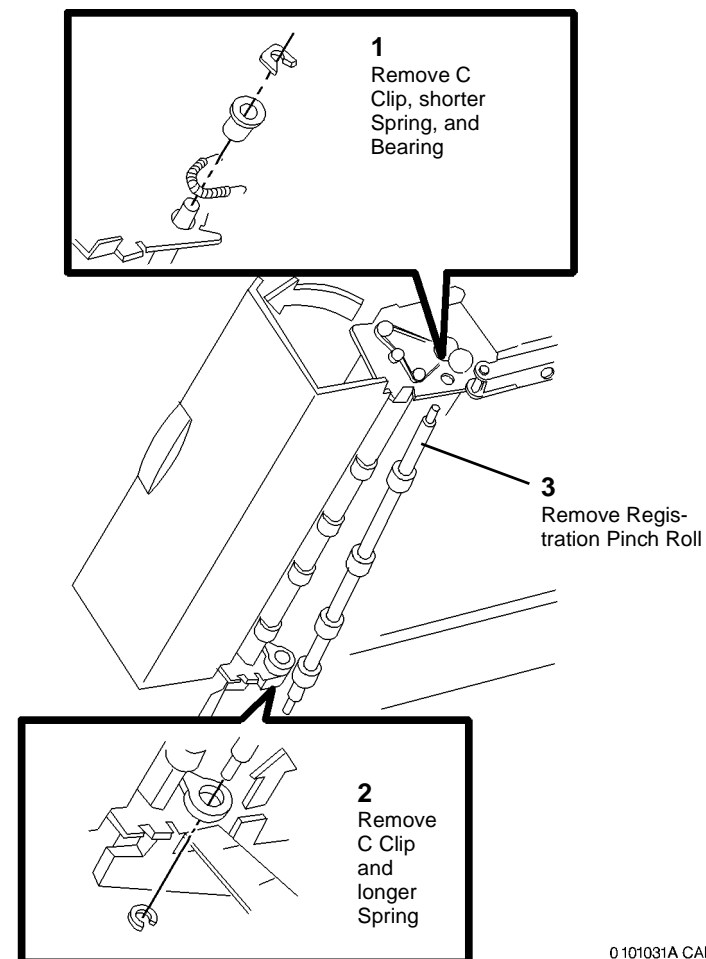

Figure 3 Removing Registration Pinch Roll
4. Remove Registration Pinch Roll (Figure 3).